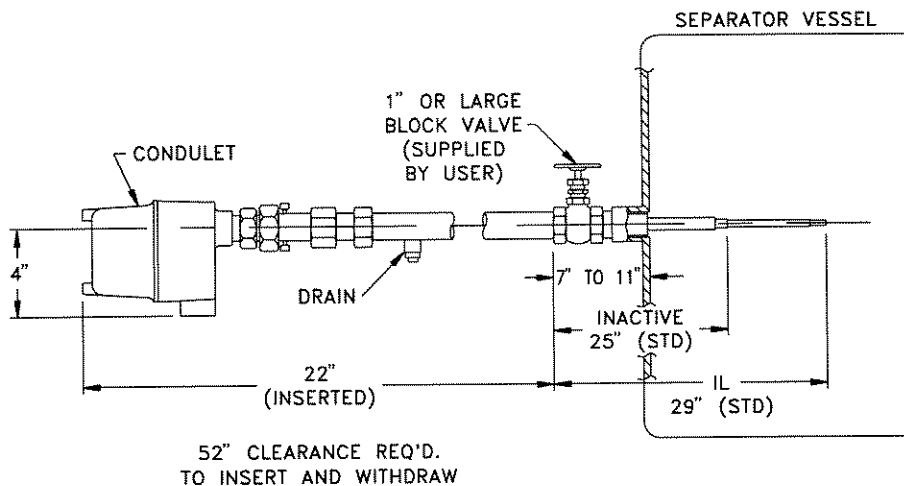

Figure 1-2
B. 506-6900-X29X (See Figure 1-2). The clearance that is required to install and with draw is 52 inches from the face of the block valve.